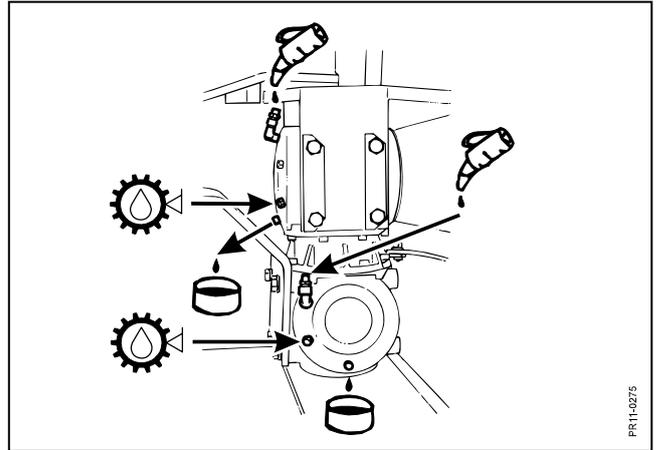

Fig. 4-8
- Fig. 4-8** Oil content:  0,6 l in the upper part